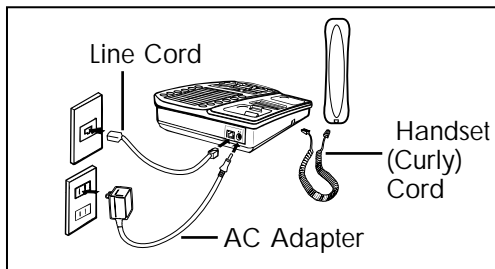

Figure 4 - Connecting the Components
1. Connect the telephone line cord and the handset cord to the telephone as shown in Figure 4.
2. Plug the AC adapter into an electric outlet and into the telephone as shown in Figure 4.